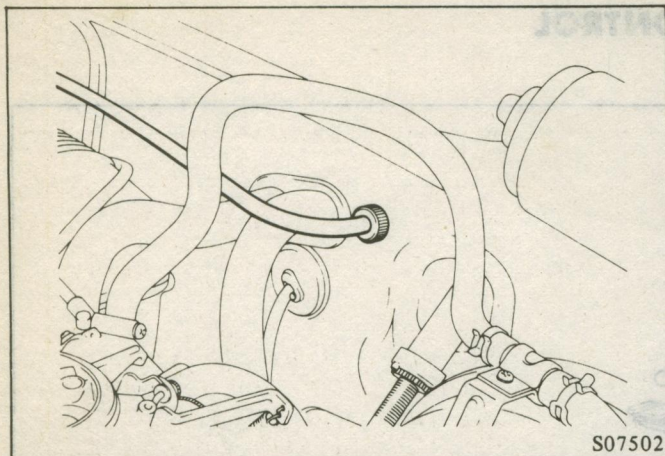

Fig. 34 Removing the Accelerator Cable
- (1) Remove air cleaner.
- (2) Remove clamp from outer cable. Disconnect inner cable from throttle lever.
- (3) Disconnect inner cable from accelerator arm. Remove cable guide from toeboard in the engine compartment. Remove cable from truck. (Fig. 34)